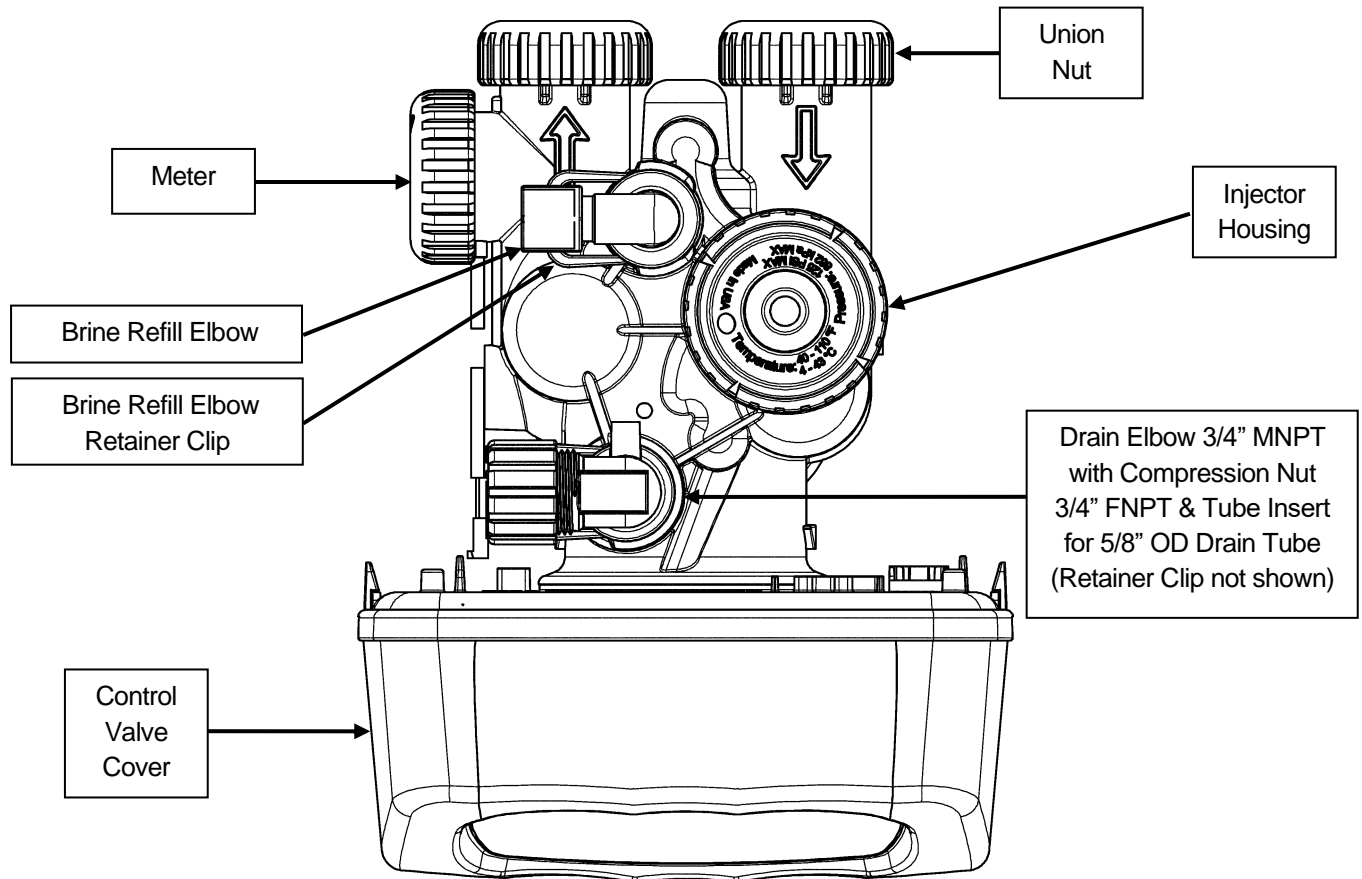
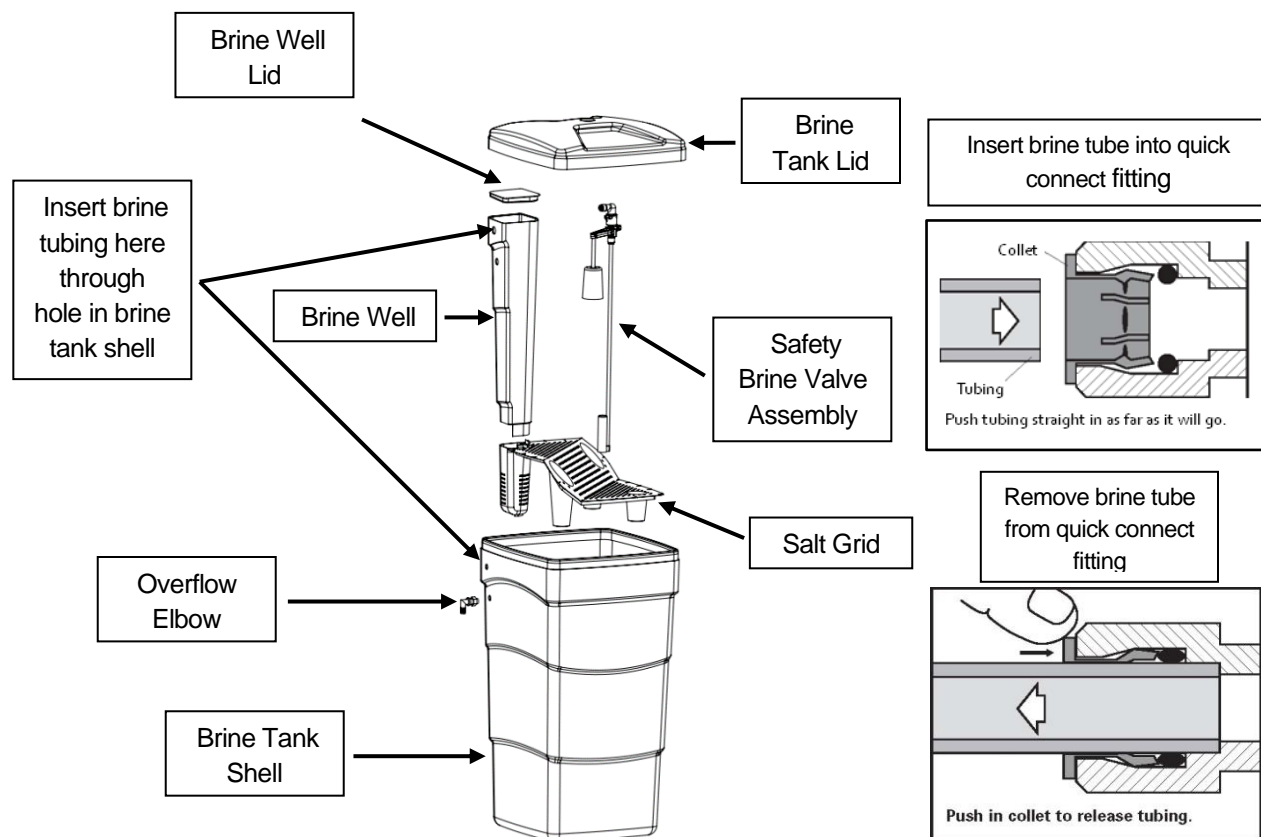

FIGURE 2: Top View of Control Valve
FIGURE 3: Brine Tank Components
- STEP 2:** Using the integrated coupling nuts, attach the bypass valve to the inlet/outlet of the control valve and put handles in the bypass position (Figure 2).
- STEP 6:** Use the provided polyethylene tubing (**NO VINYL TUBING**) to run drain line from control valve drain fitting (Figure 2) to floor drain or sump pit capable of handling the backwash rate of the softener (refer to specifications on Page 12 - 13). **THE DISCHARGE END OF THE DRAIN LINE MUST BE FIRMLY SECURED!** There must be an air gap at the end of the drain line to prevent siphoning of wastewater and meet plumbing code. Total length of drain line should be 15' or less. **AVOID OVERHEAD DRAINS.**
- STEP 7:** Connect one end of the 3/8" brine line to the control valve quick connect brine refill elbow (Figure 2, Page 5). Insert the other end of the brine line through the hole in the brine tank and into the quick connect fitting on the top of the safety brine valve (Figure 3). Remove the quick connect collet retainer clip (if included) before inserting the brine line into each fitting, press the tube in very firmly and replace the retainer clip behind the collet. **NOTE: THE BRINE TUBING SHOULD BE INSERTED 5/8" INTO THE FITTING. DO NOT PUT SALT INTO THE BRINE TANK AT THIS TIME.**
- STEP 8:** If desired, install overflow tubing (not provided) from overflow elbow on brine tank (Figure 3) to floor drain. Tubing must be lower than the overflow elbow at all times. **DO NOT CONNECT DRAIN LINE FROM SOFTENER CONTROL VALVE TO BRINE TANK OVERFLOW. DO NOT CONNECT BRINE TANK DRAIN LINE TO THE SOFTENER DRAIN LINE.**